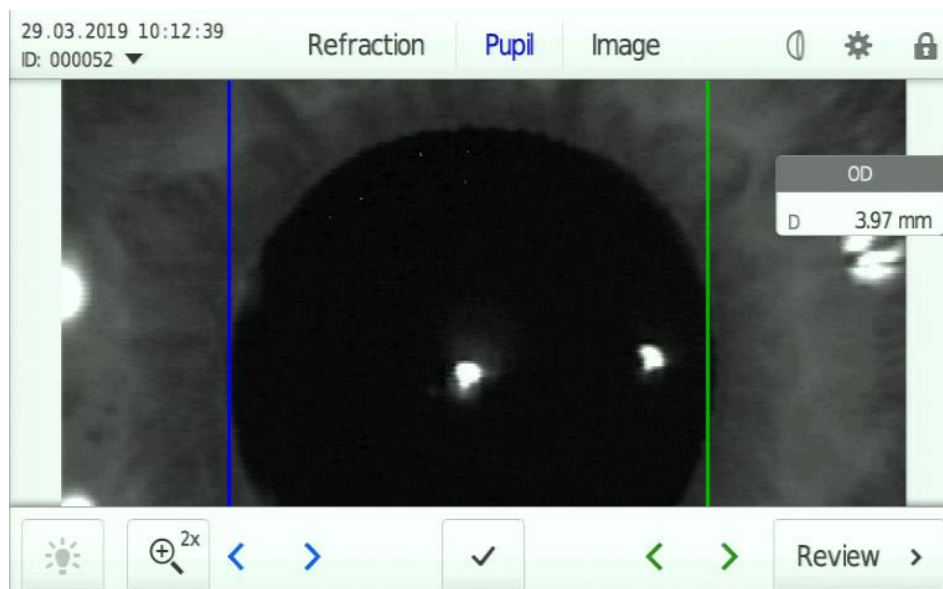

Fig. 41 Measurement screen of pupil diameter with double magnification.
- After closing the **Zoom** pop-up window, the selected magnifying factor is displayed beside the magnifying glass symbol (Fig. 41).